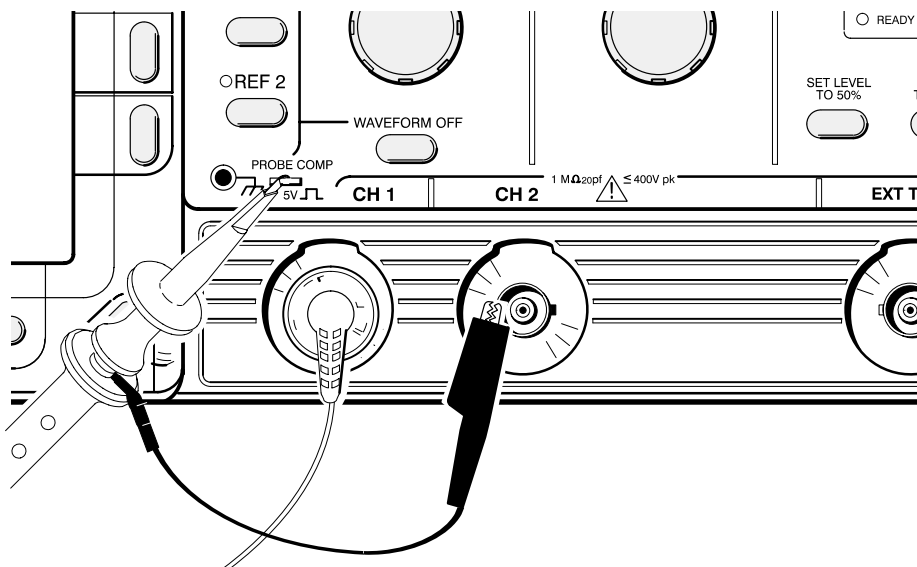

Figure 2-6: Probe Compensation Setup
1. Attach the probe BNC connector to the **CH 1** input and attach the probe tip to the **PROBE COMP** output signal, as shown in Figure 2-6. Attach the probe ground clip to the outer ring of the **CH 2** BNC.